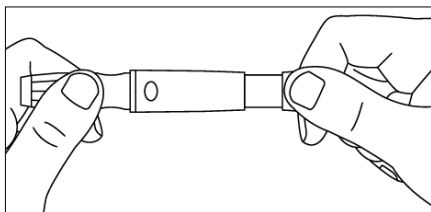

Fig 5.34
**Step 6:** Pull the cocking barrel back to set the lancing device. A click may be heard. The meter is now loaded and ready for obtaining a drop fingertip blood (Ref Fig 5.34).